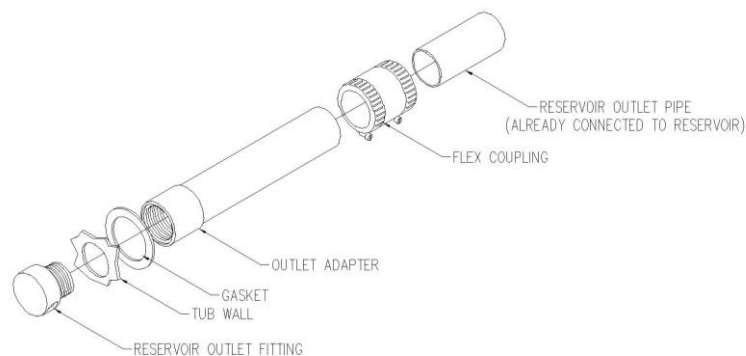

Figure 4
2. Replace the plug with the reservoir outlet fitting, Gasket, and outlet adapter. (These are packed with the reservoir) See **Figure 4** for assembly order. Ensure that the opening of the outlet fitting is pointed directly down after final tightening.
2. Connect the reservoir outlet pipe to the outlet adapter with the provided flex coupling and tighten. Reference **Figure 4**.